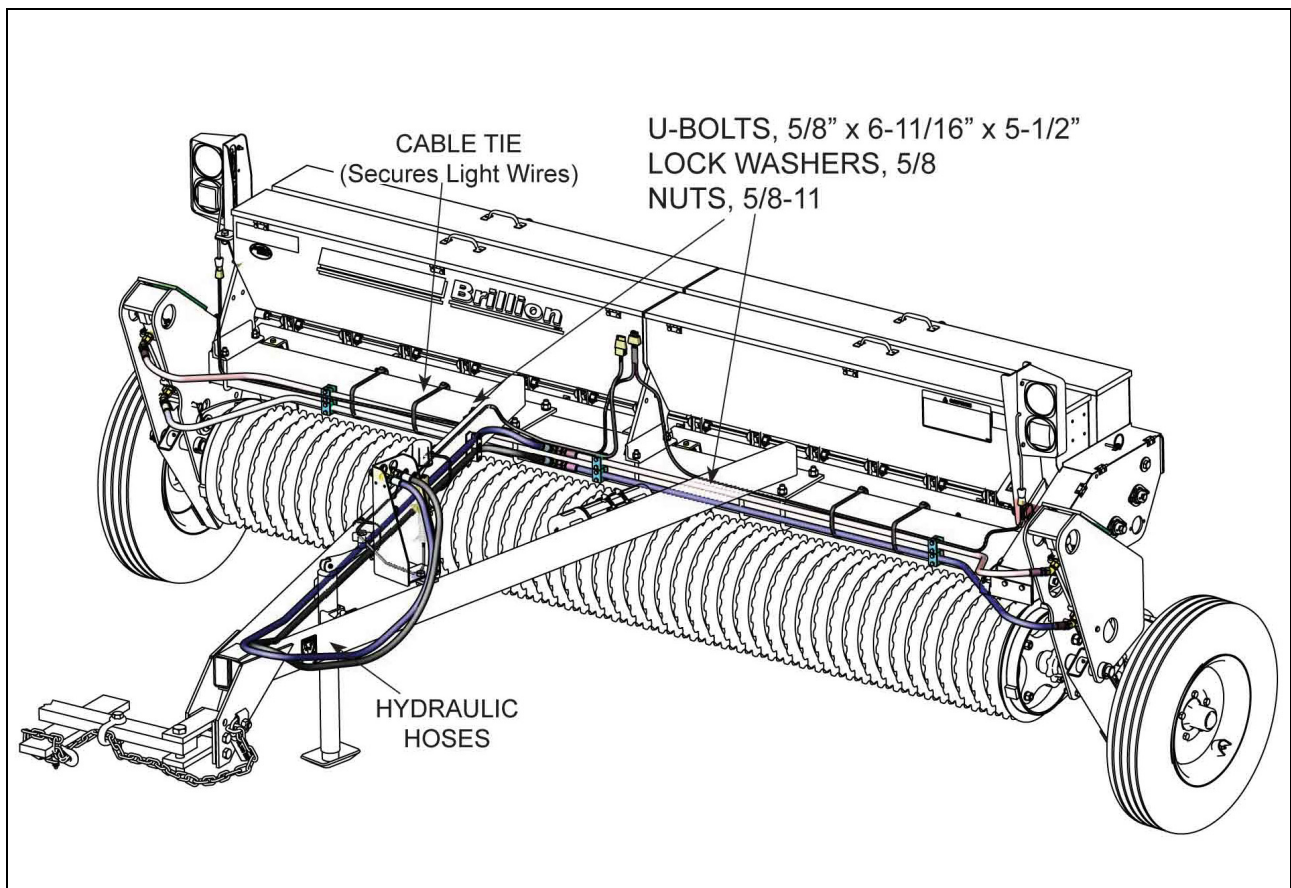

Figure 2-12: Drawbar Assembly
3. Fasten the hoses to drawbar with straps provided. See Figure 2-12.